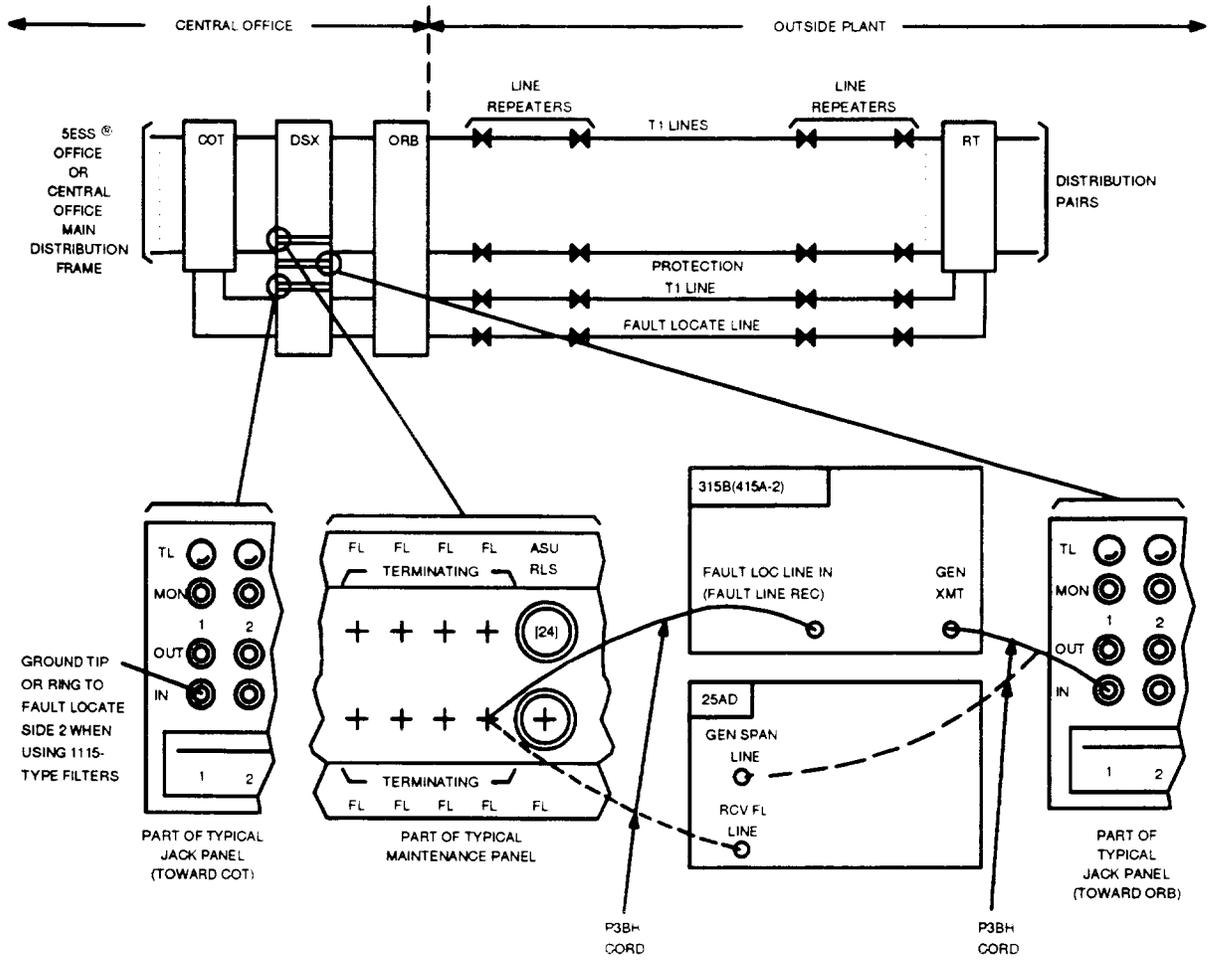

Figure 3 — Typical DSX Cross-Connect Fault-Locating Configuration
10. Plug power cord into -48 V source (Figure 3).
24. Connect DSX cross-connect panel and test equipment per Figure 3.